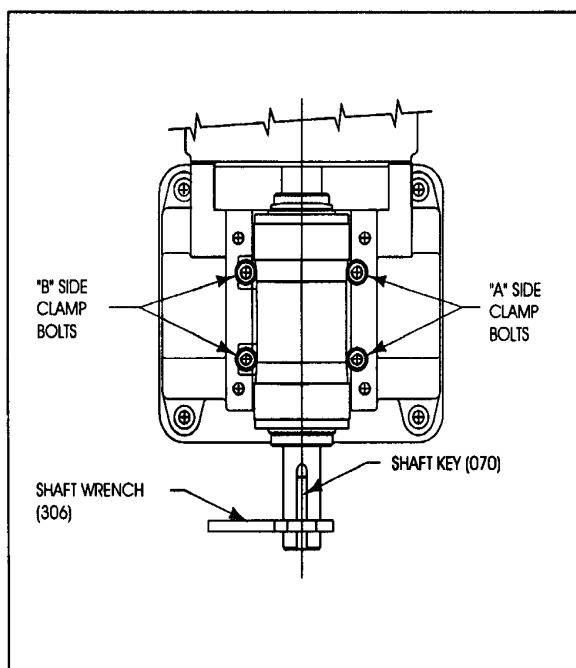

Figure 6-18 • Shaft Key and Clamp Bolts
- a. Check CLAMP BOLTS (012) on side of base (see Figure 6-18) to ensure they are just tight enough to hold the bearing assembly horizontal, but not to lock it. Assuming the shaft is bare, fit SHAFT KEY (070) in keyway and bolt SHAFT WRENCH (306) onto the shaft. If the pump is installed, remove v-belts or separate coupling hubs.
- b. Obtain correct type of IMPELLER as specified for particular application. **Note:** Elastomer impellers must be fitted with a BOSS CAP (359). To keep it in position during assembly tape it to the impeller hub. Apply anti-seize lubricant to the thread. Lift the impeller with a rope hoist, and screw it onto shaft. Use a bar between vanes and turn shaft to tighten impeller. Be careful not to damage the various o-rings on the shaft during assembly.
6. Fit THROATBUSH (083).
- a. Screw and tighten studs (274) in tapped bosses provided in THROATBUSH.
- b. Lift THROATBUSH carefully into position, line up studs with holes in COVER PLATE (013) and push into cover plate. Fit nuts onto studs. Ensure volute liner seal installed above remains in place.
7. Fit COVER PLATE LINER (018).
- a. Screw and tighten studs (023) in tapped bosses provided in cover plate liner.
8. Fit COVER PLATE (013).
1. Obtain the correct type of IMPELLER as specified for the particular pump application. **Note:** Elastomer impellers have a BOSS CAP (359). To keep it in position during assembly tape it to the impeller hub. Rest the impeller (boss up) on a flat surface. Apply anti-seize lubricant to the impeller thread.
2. Check CLAMP BOLTS (012) on side of base (see *Figure 6-18*) to ensure they are just tight enough to hold the bearing assembly horizontal, but not to lock it. Assuming the shaft is bare, fit SHAFT KEY (070) in keyway and bolt SHAFT WRENCH (306) onto the
3. Check CLAMP BOLTS (012) on side of base (see *Figure 6-18*) to ensure they are just tight enough to hold the bearing assembly horizontal, but not to lock it. Assuming the shaft is bare, fit SHAFT KEY (070) in keyway and bolt SHAFT WRENCH (306) onto the shaft. If the pump is installed, remove v-belts or separate coupling hubs.
1. Check CLAMP BOLTS (012) on side of base (see Figure 6-18) to ensure they are just tight enough to hold the bearing assembly horizontal, but not to lock it. Assuming the shaft is bare, fit SHAFT KEY (070) in keyway and bolt SHAFT WRENCH (306) onto the shaft. If the pump is installed, remove v-belts or separated coupling hubs.
1. Loosen CLAMP BOLTS (012) on Side 'B' only, as shown in *Figure 6-18*, except on 8/6 AH or larger pumps, when such are fitted with mechanical seals. In this case loosen only the clamp bolt furthest from the pump shaft end. This will ensure the bearing assembly will not lift up on one end, resulting in possible damage to the mechanical seal faces. A maximum .010" rise at the bearing assembly drive end is allowed.
4. Tighten CLAMP BOLTS (012) on side 'B' as shown in *Figure 6-18* per *Table 6-4*. Bolts on side 'A' were tightened earlier.